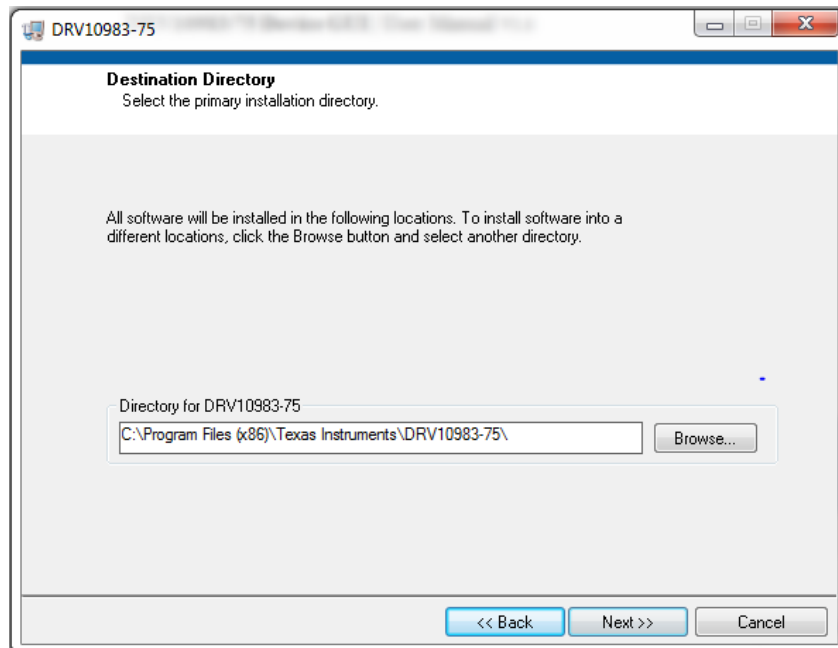

Figure 1-3 Destination Directory
2. Set the destination directories for the GUI installation and press the **Next»** button as shown in Fig.1-3.